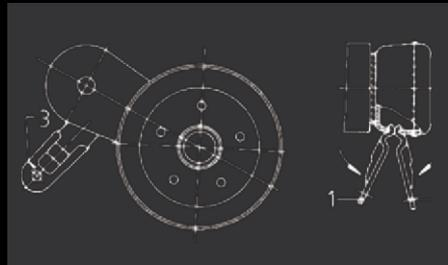

Fig 2
6. Insert mounting brackets - see Fig2, Items 1 and 2 - ensuring the 'arrow' is pointing forwards - see Fig 2, Item 3. Note:- brackets are handed. Press brackets together using pliers, if necessary.